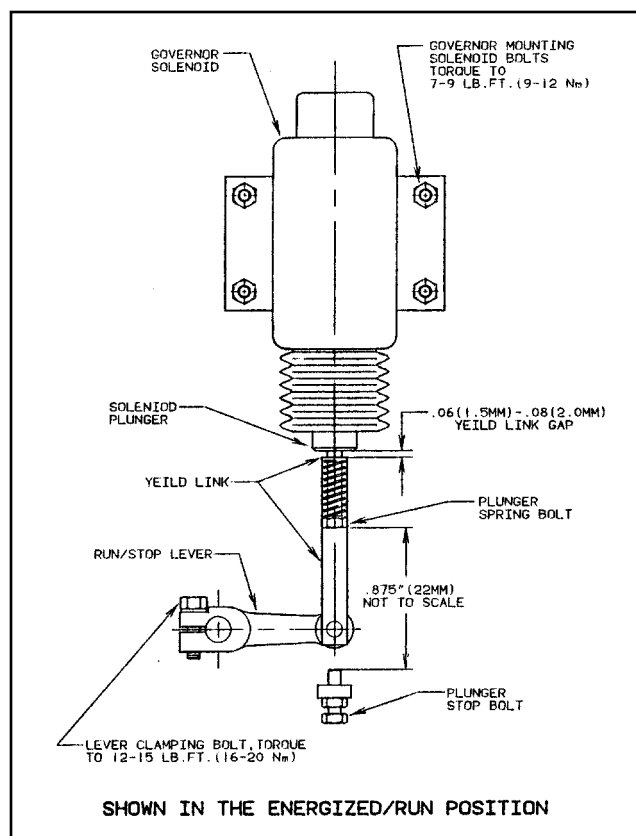

Figure 3 - Shown in the Energized/Run Position
IMPORTANT: To insure the engine will produce rated nameplate horsepower, the gap between the yield link and the solenoid plunger must be properly adjusted. (Refer to Figure 3.)
Position the mode selector switch on the instrument panel (Fig. 3, Page 32), to the MANUAL position. Manually push the solenoid plunger into the solenoid. When the plunger is at full travel, the hold coil magnetic field will hold the plunger, linkage and the run/stop lever in the run position. Push on the plunger spring bolt, not the linkage or the lever. Check the gap at the narrowest point and adjust if necessary. (Refer to Fig. 3). After the check is completed return the mode selector switch to the AUTOMATIC position.
Adjust the Gap by loosening the Lever Clamping Bolt (Fig. 3), and rotating the Run/Stop Lever on the governor shaft to the desired position and re-torque the clamping bolt. Re-check the gap and repeat adjustments if necessary. After the check is completed return the mode selector switch to the AUTOMATIC position.
Adjust the gap by loosening the four (4) Governor Solenoid Mounting Bolts (Fig. 3), slide the Solenoid to the desired position and re-torque the mounting bolts. Re-check the gap and repeat the adjustment if necessary. After the check is completed return the mode selector switch to the **AUTOMATIC** position.